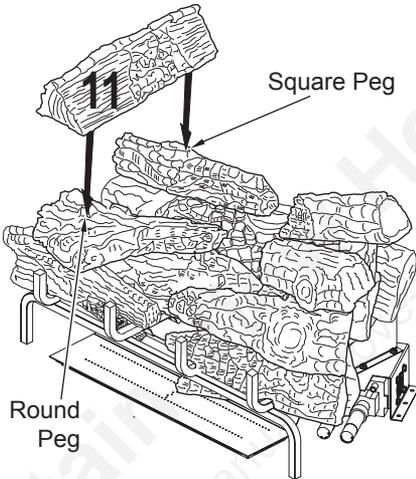

Figure 54 - Installing Log # 11
11. Place the left top log (#11) on top of the left back top log (#5) and left top forked log (#6) as shown in Figure 54, page 25. Match the round peg on the top of the left top forked log (#6) with the round hole on the bottom of the top left log (#11) and rectangular peg on the top of the left back top log (#5) with the rectangular hole on the bottom of the top left log (#11).